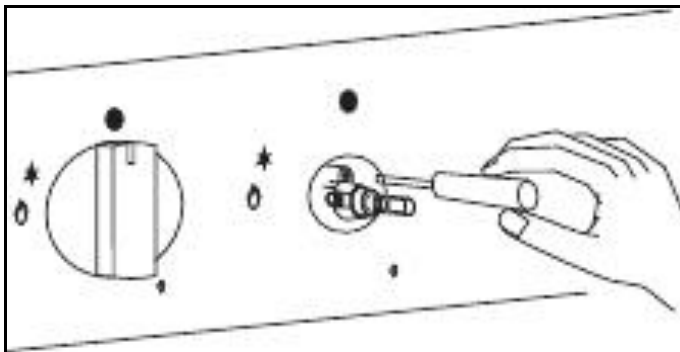

Figure 22
- 4) To adjust the flame, remove the knobs; insert a screwdriver through the access hole in valve shaft as shown. Make the adjustment by slowly turning the screw until flame appearance is correct. (See Figures 22 and 23)
- Adjust or clean burner if flame is yellow-orange. To clean burners, see instructions under “Care and Cleaning”. (See Figures 22 and 23)